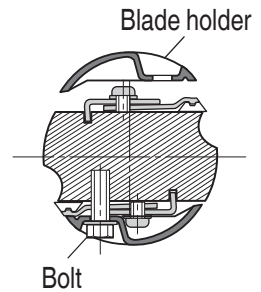

Fig. 19
- (6) As shown in **Fig. 19**, place the blade holder on the completed assembly and fasten it with the three bolts. Ensure that the bolts are securely tightened. Follow the same procedures for the opposite side carbide blade.